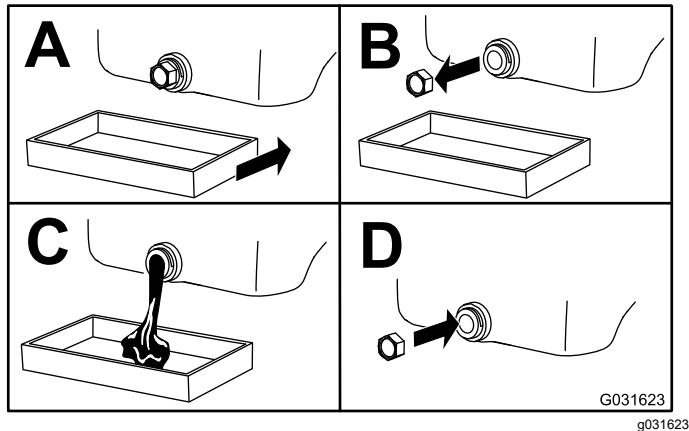

Figure 42
4. Change the engine oil as shown in Figure 42.